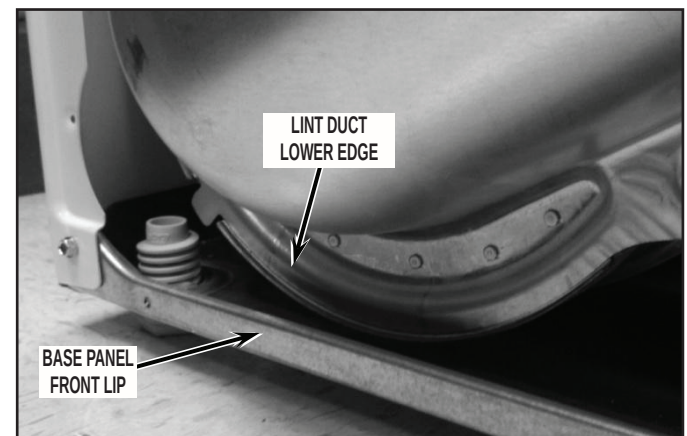

FIGURE 27
4. When swinging the front bulkhead and lint duct assembly to the dryer front, be aware that the lint duct bottom edge clears and resides inside the front lip of the base panel. See *Figure 27*.